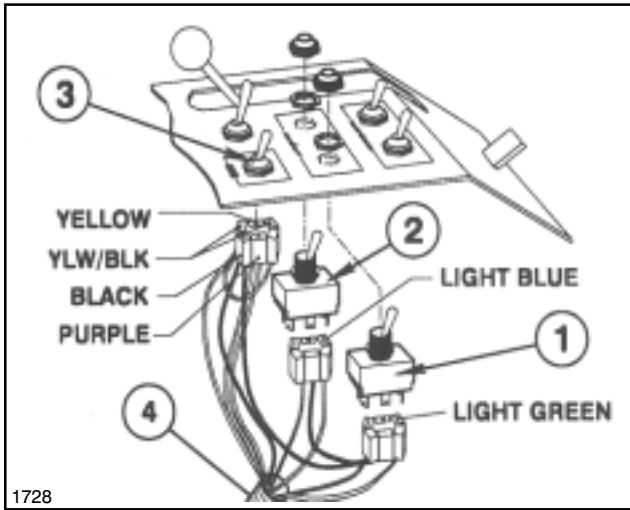

FIG. 5
12. Install two (2) Boom Switches (included in Boom Lift Kit) and Sonic Boom™ Mode Switch. Connect Wiring Harness as shown in FIG. 5.